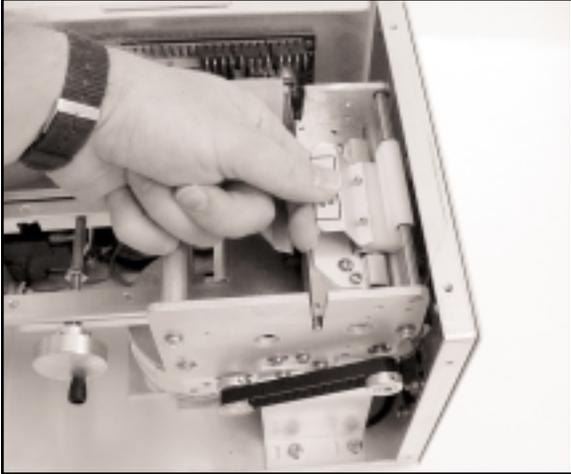

Figure 9a - Print Head removal
(Please refer to **figures 9a - c**)
3. Lift up on the cam lock assembly (located above the head mounting block) to remove pressure from the thermal head. (see **figure 9a**)
1. Lift up the cam lock assembly (located above the head mounting block) to remove pressure from the thermal head. (see **figure 9a**)